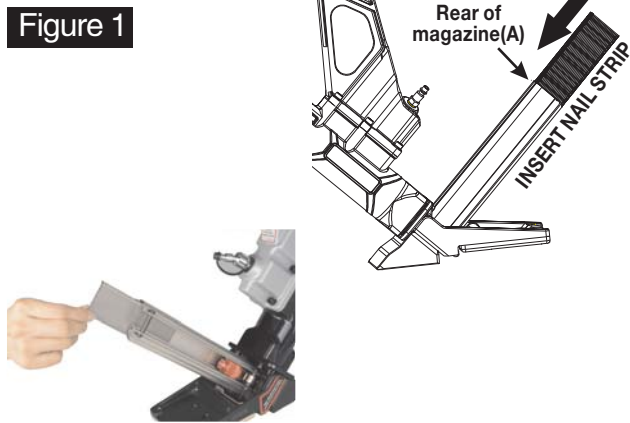

Figure 2
2. Insert a strip of fasteners from the rear of the magazine (A). Be sure the fasteners are pointed downward. (See figure 1 & figure 2)